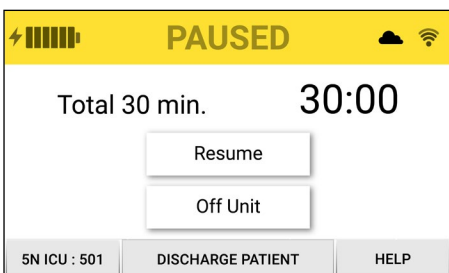

Figure 9. Paused screen: general use systems
2. A Paused screen will display with a yellow status bar and remaining pause time displayed on the right side of the screen. (Fig. 9)
3. Pause time may be extended if necessary when the patient is going off-unit by pressing "Off Unit" to display additional pause times. (Fig. 9)